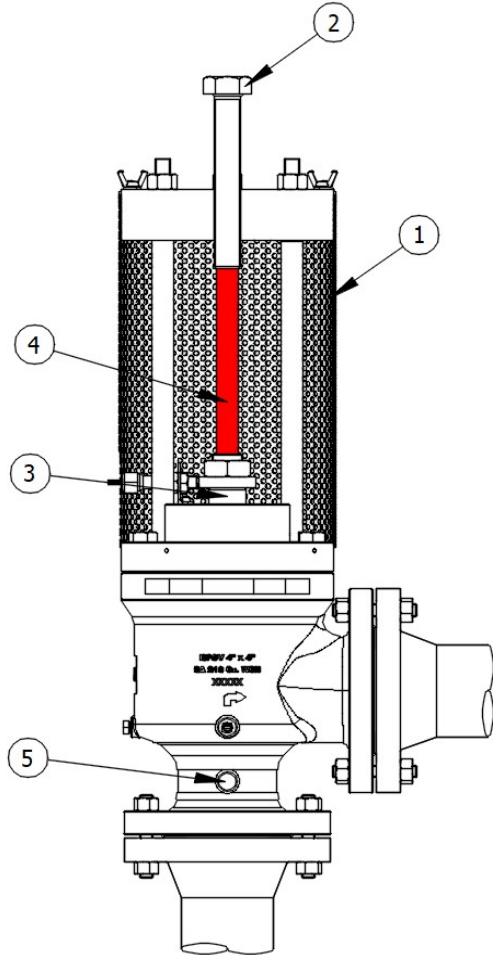

Figure 10: Piping Integrity Hydrostatic Test Set-up
- The piping integrity hydrostatic pressure test shall be conducted with valve installed in the Piping system with Plug in closed position as shown in Figure 10 below.
- The piping integrity hydrostatic test must be tested without any air inside the valve inlet section. The air can be vented out through the NPT at the inlet section of the valve as shown as Item 5 in Figure 10.
- Acceptance Criteria:** There shall be no visible leakage around the NPTs (Item 5 of Figure 10) at Inlet section.